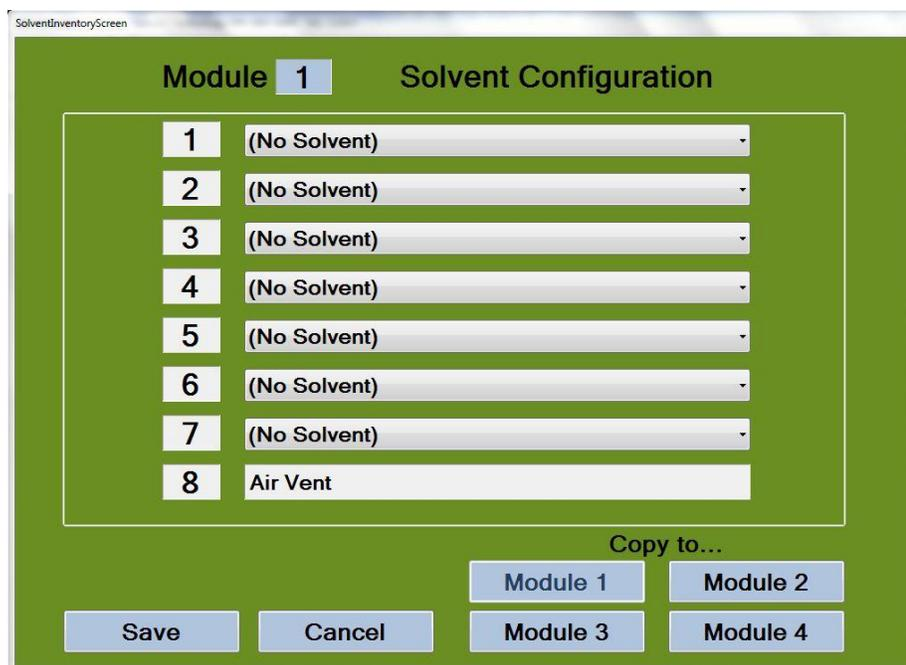

Figure 6-6. Solvent Inventory Screen
Step 9: Click *Solvent Config* to display the Solvent Configuration screen (Figure 6-6).